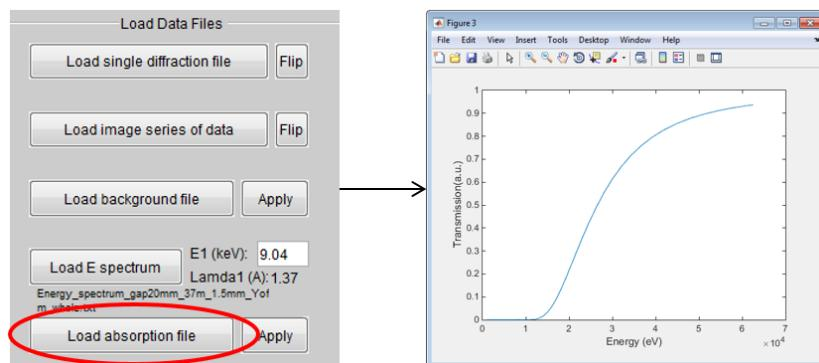

Figure 3.3: Load absorption file (transmission% vs energy)
- 9) Click “Load absorption file” button to load x-ray transmission curve. This is needed only for transmission geometry. The x-ray mass attenuation coefficient of elements can be found on the webpage of NIST. The loaded data will then be plotted in a window, as shown in Fig. 3.3.